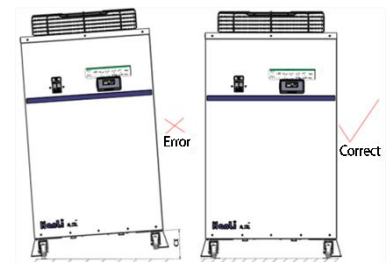

Figure 6-1 Requirements for
- It must be installed horizontally and cannot be tilted , as shown in Figure 6-1.